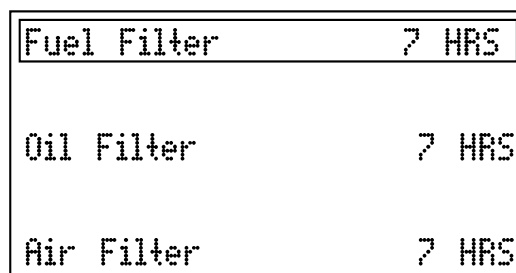

Figure 2-20. Maintenance Screen
See Figure 2-20. Displays AC output amperage in amps (A). The load balance for each line (L1 and L3) is displayed in both numerical and graphical form. It is important to maintain a balanced load distribution between the lines for optimum generator performance. .
See Figure 2-20. The Maintenance screen (🔧) displays the maintenance alarms configured into the controller. The three alarms are for servicing the fuel filter, oil filter, and air filter.